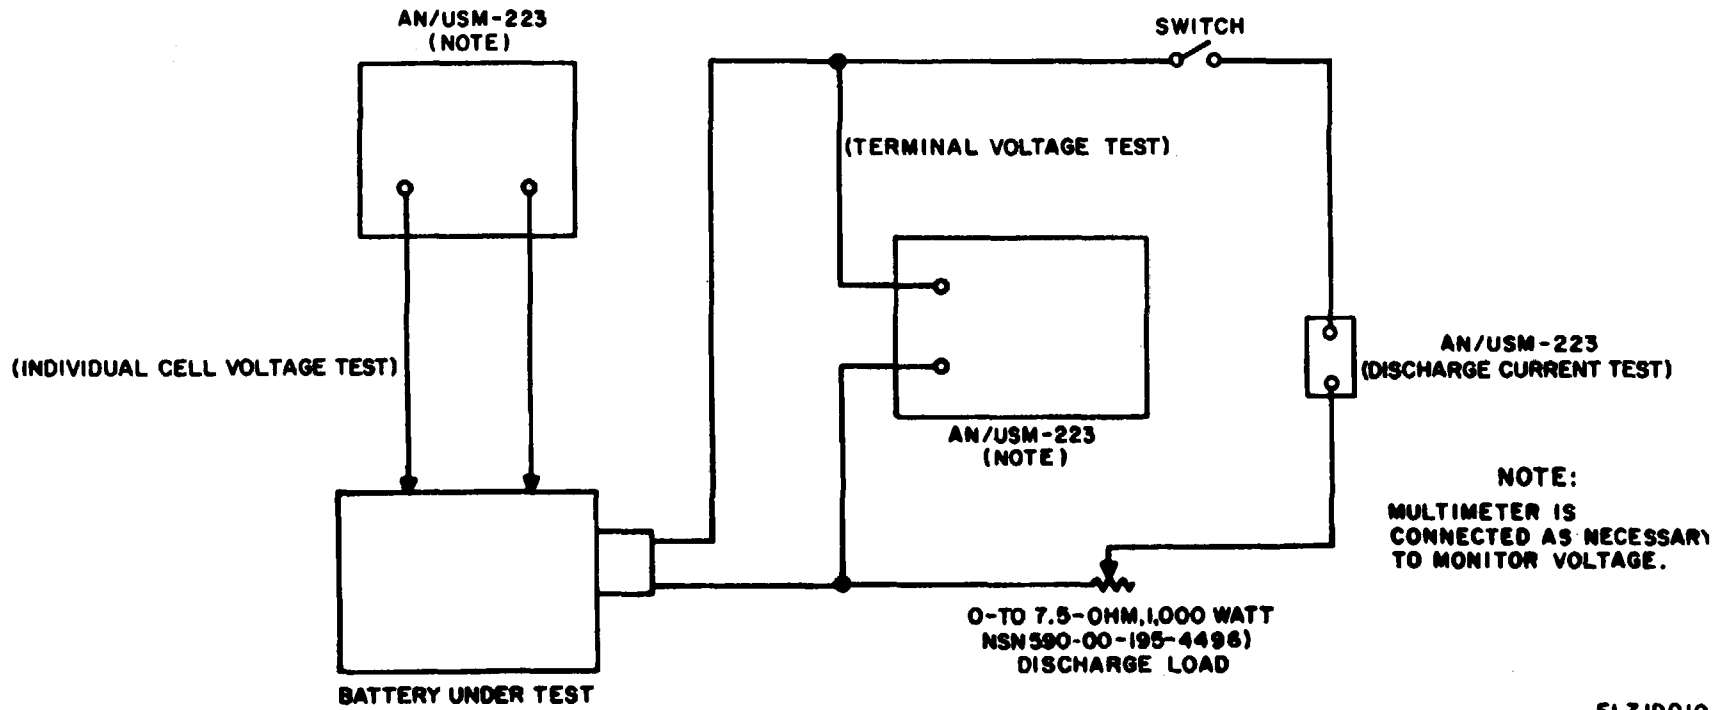

Figure 5-1. Capacity Test Connection Diagram.
(c) For the resistor method, connect the switch (item 7, appx E), variable resistor (item 8) and test equipment as shown in figure 5-1. Two multimeters are required, one to measure voltage and the other current.